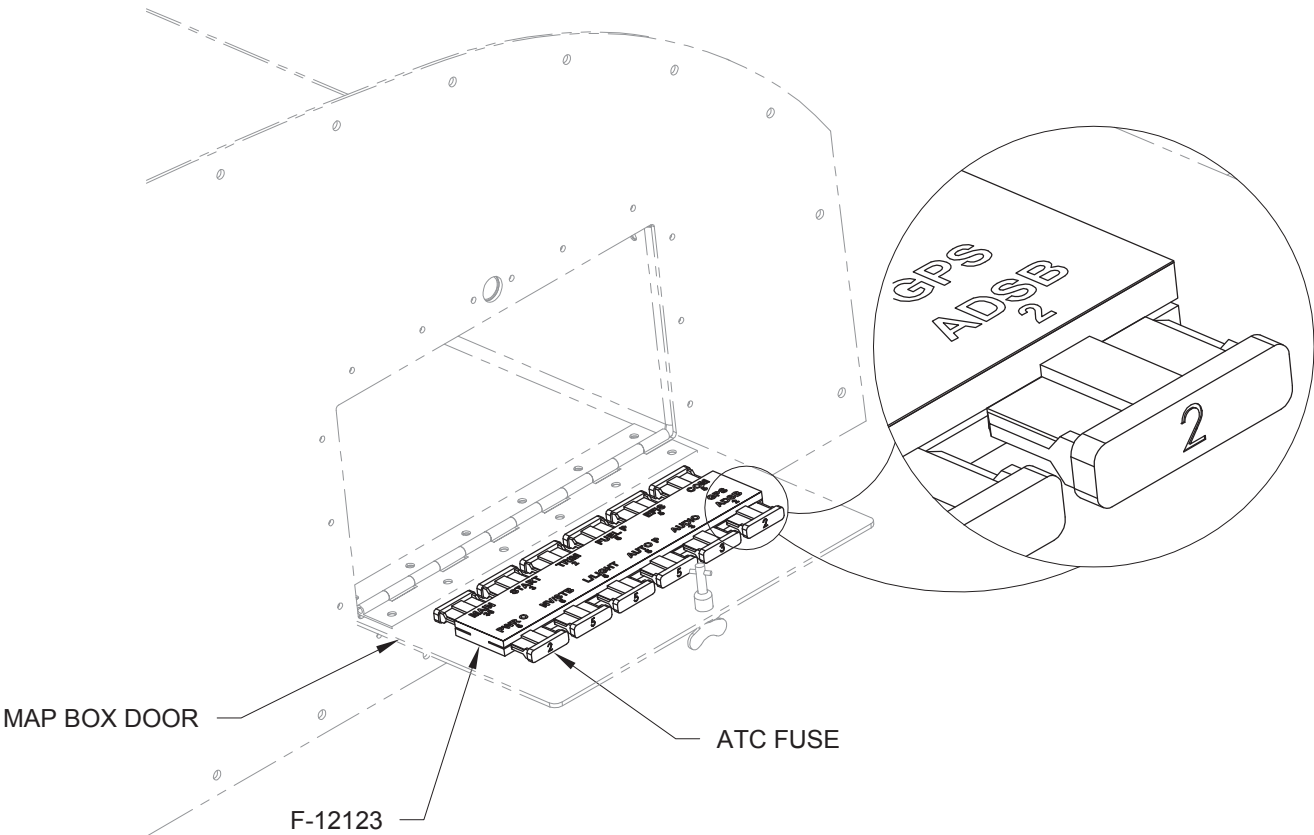

FIGURE 3: ADDING TO THE FUSE HOLDER
Step 3: Install a second fuse in the F-12123 Fuse Holder Assembly pertaining to the same fuse value shown in Figure 3.